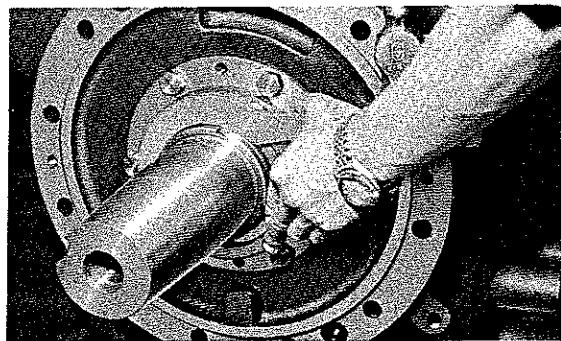

Fig. 83 How to set locknuts
- a) Turn the notch of the seal collar upward, fit the locking ball of the crankshaft in the notch, and insert the seal collar by hand, taking care not to damage the "O" ring. If it does not enter easily, push it forward by tightening the locknut carefully; check whether the locking ball is seated in the noth. (Ref. Fig. 83)